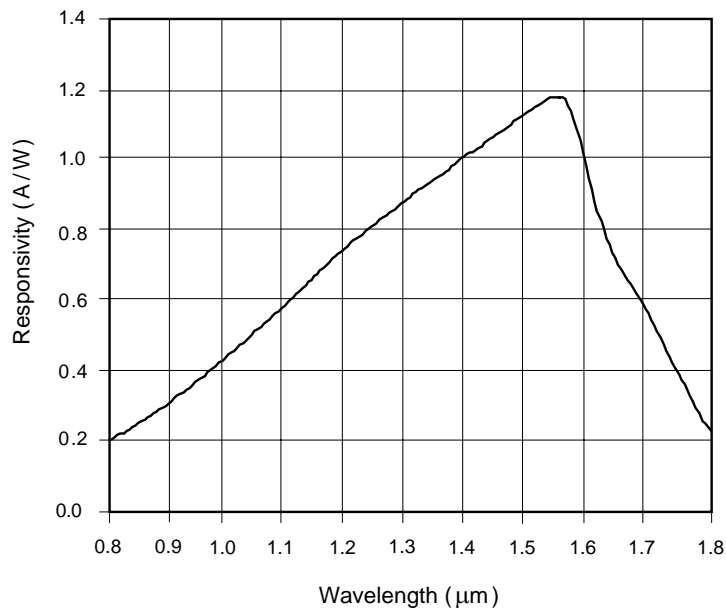

Fig. 1: Spectral Responsivity of SM1PD5B Mounted Ge-Photodiode
The Thorlabs SM1PD5B Mounted Germanium-Photodiode is ideal for measuring both pulsed and CW light sources, by absorption of photons or charged particles and generate a flow of current in an external circuit, proportional to the incident power. The photodiode anode produces a current, which is a function of the incident light power (P) and the wavelength (λ). The responsivity R_λ, can be read from Fig.1 to estimate the amount of photocurrent to expect. This can be converted to a voltage by placing a load resistor (R_L) from the photodiode anode to the circuit ground. The output voltage is derived as: